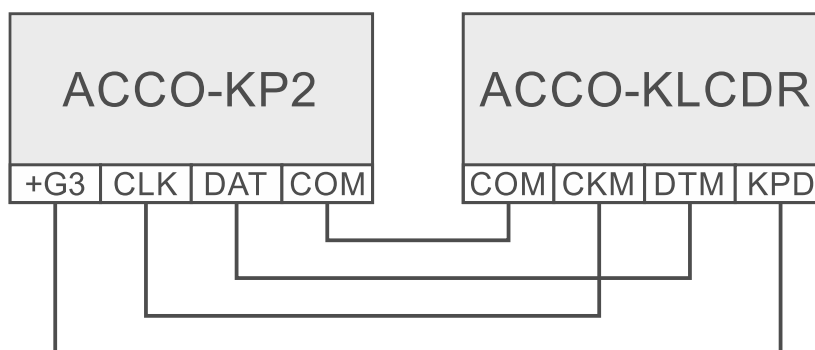

Fig. 11. Method of connecting the LCD keypad to the ACCO-KP2 module. The +G3 output is used as an example. You can use the +G1...+G4 outputs.
6. Connect the LCD keypad terminals to the appropriate module terminals (see Fig. 11).